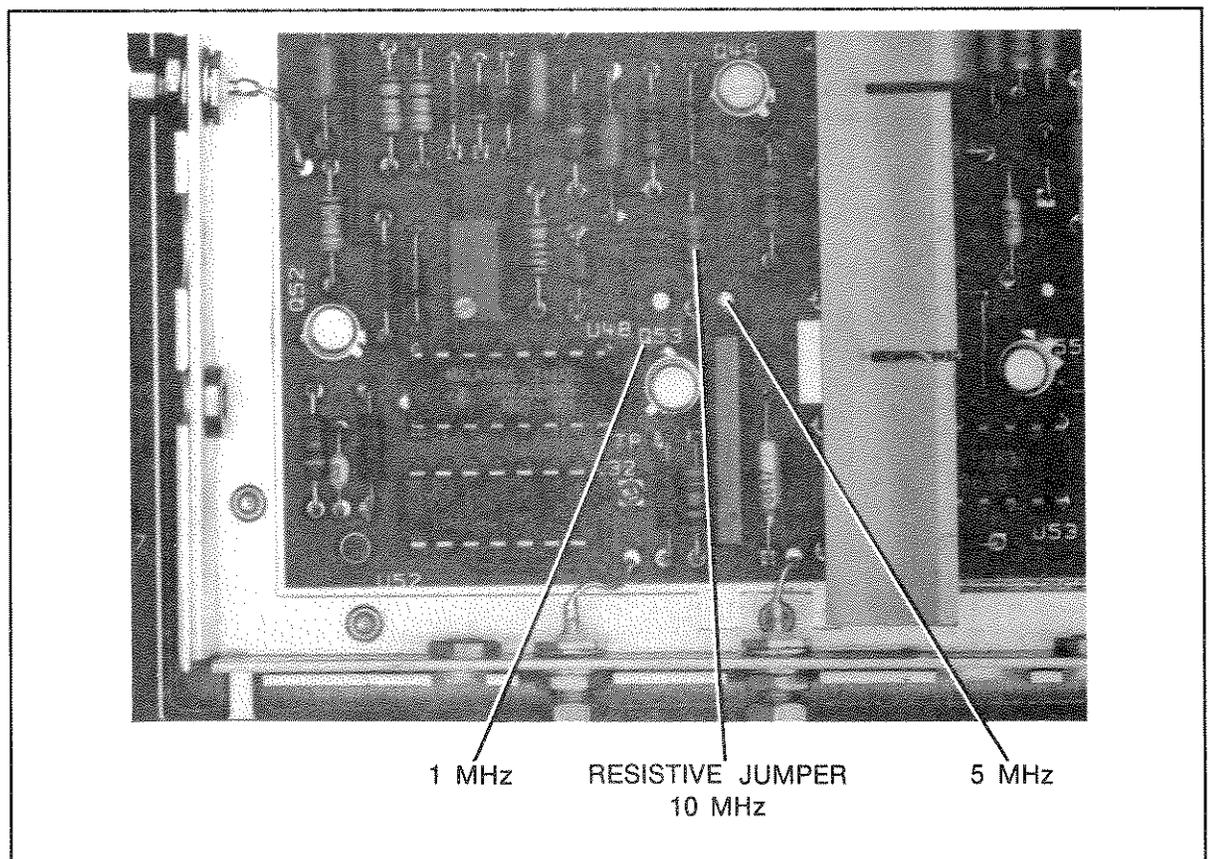

Figure 2-2. Time Base Jumper Location
- Remove the top cover of the Low Frequency Loop 50 MHz Reference Oscillator by removing eight screws on the top cover's four sides. The 50 MHz Reference Oscillator's top cover is located on the Low Frequency Loop Assembly — A3 to the rear of the Signal Generator. The top cover lifts off exposing the time base jumper (see Figure 2-2).